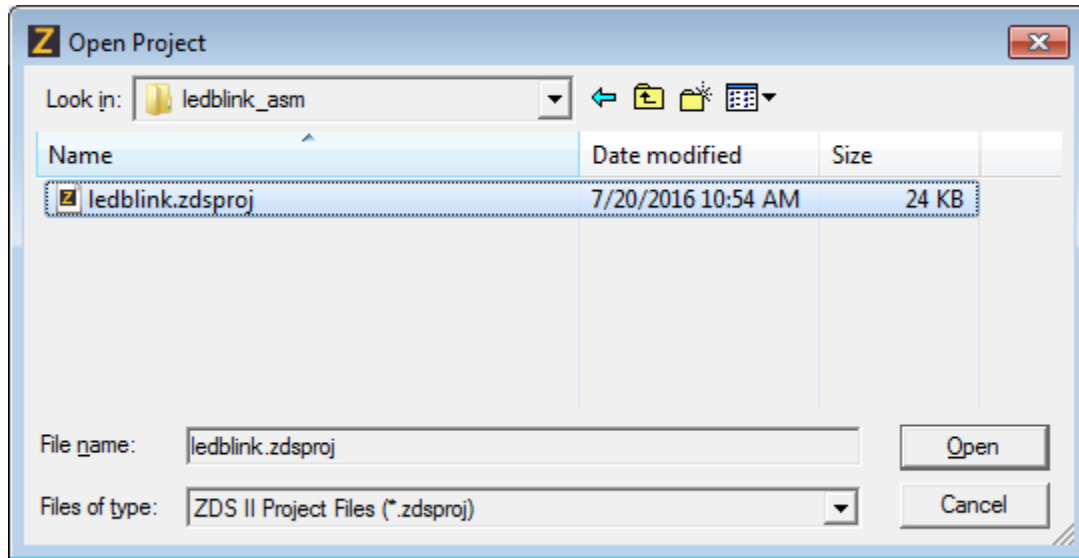

Figure 7. Select the ledblink.zdsproj Project
3. Select the `ledblink.zdsproj` project from within the `ledblink_asm` folder as indicated in Figure 7 and click **Open**. A list of source files will appear in the Workspace panel.